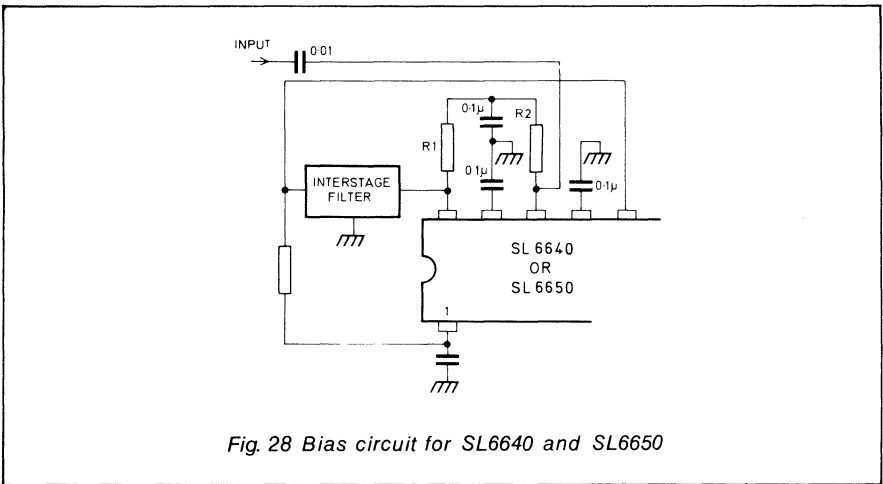

Fig. 28 Bias circuit for SL6640 and SL6650
Bias circuitry for both the main amplifier and the preamplifier is shown in Fig.28. The preamplifier input is pin 16 (14). It is not self biased but is fed with bias from pin 18 (16) via a total of about 15 k $\Omega$ . The input impedance of the preamplifier is 5 k $\Omega$  shunted by 2 pF. If, as is common, the preamplifier is fed from a filter requiring a precise match, the value of resistor R2 should be chosen to provide this. The source impedance driving the preamplifier should be 750  $\Omega$  or less to prevent instability. The input signal should be fed to pin 16 (14) via a capacitor or other DC block. The sum of resistors R1 and R2 should be 15 k $\Omega$  and their junction well decoupled at HF. The noise figure of the preamplifier is 7 dB when driven by 350  $\Omega$ .